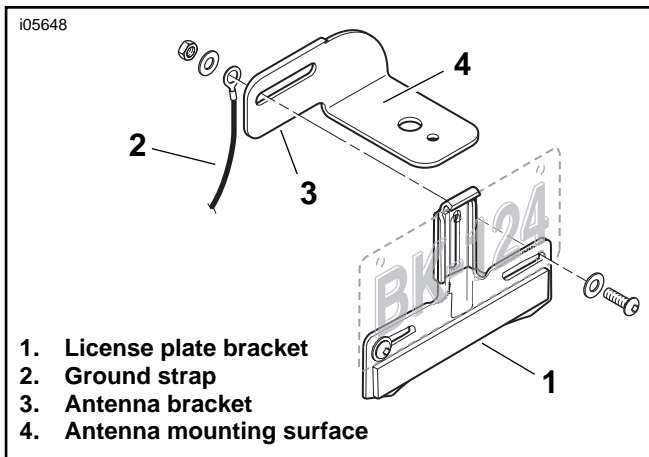

Figure 4. Antenna Mounting
17. Install the headlamp bracket trim (3) over the indicator lamp opening in the headlamp bracket.
19. Obtain the antenna bracket (4), antenna cable (6) and ground strap (5) from **this** kit, and the antenna mounting base (C) and antenna from the **radio** kit.
20. See Figure 4. Remove the fasteners holding the right side of the license plate to the license plate bracket (1). Discard the screw and nut, but retain the flat washers.
21. See the Service Parts illustration. Install the antenna bracket (4) and ground strap (5) as shown, with the antenna mounting surface toward the rear, using the screw (E) and nut (F) from the **radio** kit, and the flat washers (D) saved earlier.